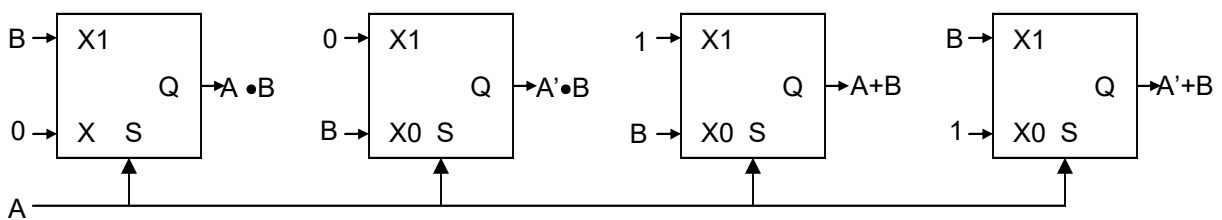

Fig. 3.3 Boolean Functions of A and B using a quad 2-input Multiplexer
3. Note that though the two 8-input multiplexers **MUX₀** and **MUX₁** require 16 inputs, they involve only 6 distinct Boolean functions of A, B, C – $A \cdot B$, $A' \cdot B$, $A + B$, $A' + B$, $A \oplus B$ and $A \oplus B \oplus C$. The first four terms are realised by four 2-input multiplexers as shown in **Fig. 3.3**. This implementation requires only one chip, whereas any implementation using gates would need more, as a single gate chip contains only one kind of gate (AND/OR/NAND/NOR). Assemble the circuit given in **Fig. 3.3** and verify its operation by actual tabulation of the observed outputs for all combinations of values of A and B applied from two Input Switches.